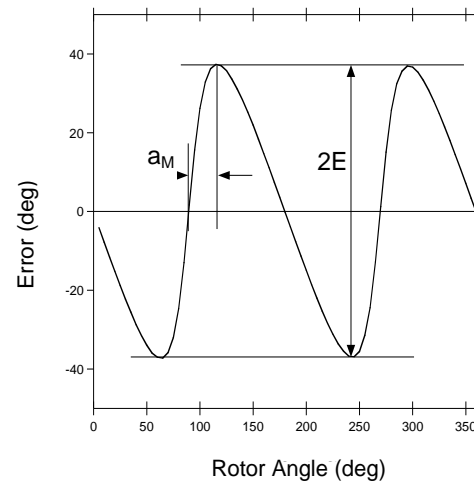

Figure 27: Error Curve in Side-Shaft Configuration (BCT = 0)
The k ratio depends on the magnet geometry and the distance to the sensor. If the k ratio does not equal 1, the sensor output response is nonlinear with respect to the mechanical angle. The error curve has the shape of a double sine wave, where E is the amplitude of this error (see Figure 27).
a zero crossing (a_M) (see Figure 27). The k ratio can be calculated with Equation (5):